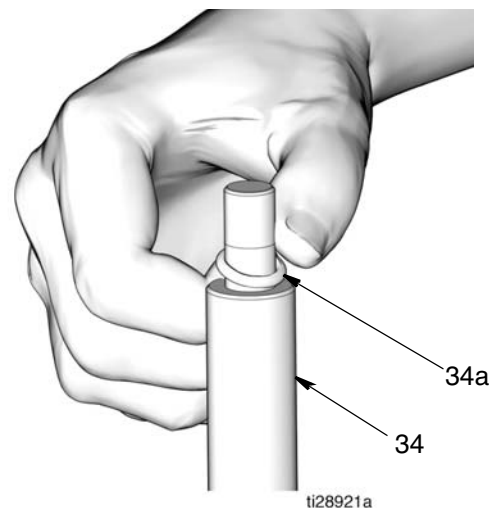

FIG. 29
5. Apply a thin layer of grease to o-ring (34a). Install o-ring over the grooves of piston rod (34) (FIG. 29).